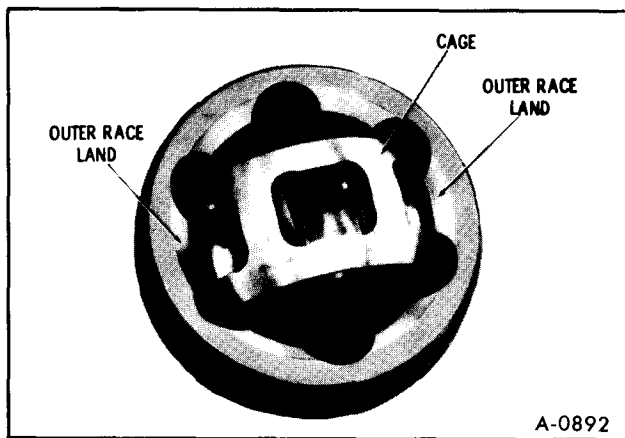
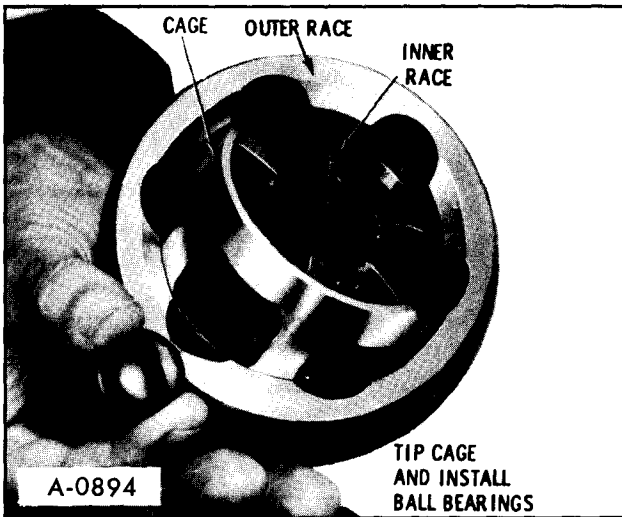

Figure 11—Positioning Cage
Figure 13—Installing Balls in Outer Race
11. Turn cage 90° and with slot in cage aligned with land in outer race lift out inner race and cage. (figure 11).
3. Insert cage and inner race into outer race by aligning windows on cage with lands on outer race. (figure 11). Pivot cage and inner race 90°, being certain that step on cage bore is positioned to inside of joint and snap ring groove in inner race is facing outside. (figure 13).
4. Insert balls into outer race one at a time by rocking assembly to each subsequent ball groove until all six balls are installed. (figure 13)